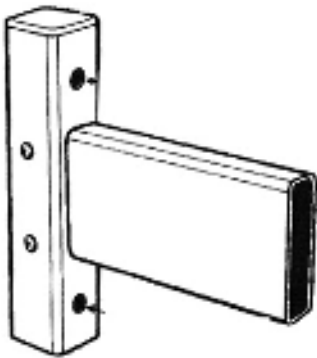

Fig. 1
1. Assemble mounting brackets. Slide bottom fence support into mounting bracket. Screw 2 #8 screws into each side of the support, attaching it to the mounting bracket. Ensure that support is inserted flush to the back of the mounting base. *See Fig. 1*